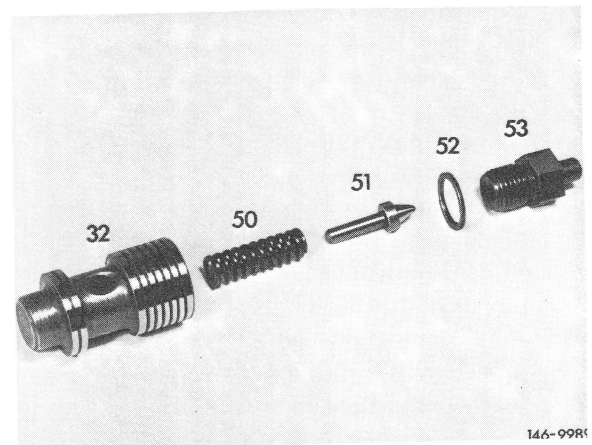

Fig. 8
12 Clamp volume control valve (32) with its unground end into vise and unscrew valve screw (53) of pressure relief valve. Make sure that no spacing washer (52) is lost. Remove valve cone (51) and compression spring (50) from volume control valve (Fig. 8).